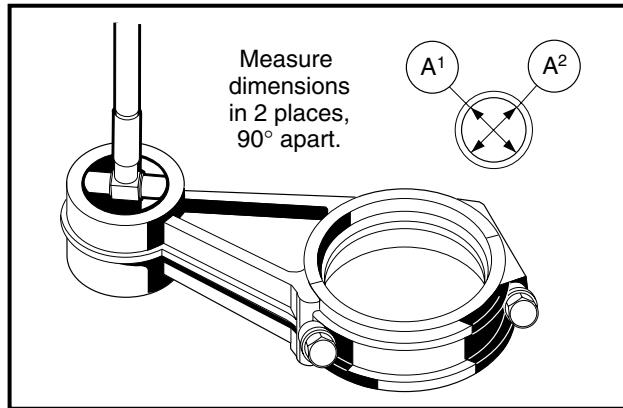

Figure 2-51 Measure I.D. of Small Bore
2. Use an inside micrometer or a telescoping gauge to measure the inside diameter of the connecting rod small bore at several points along its length (**Figure 2-51, Page 2-25**).